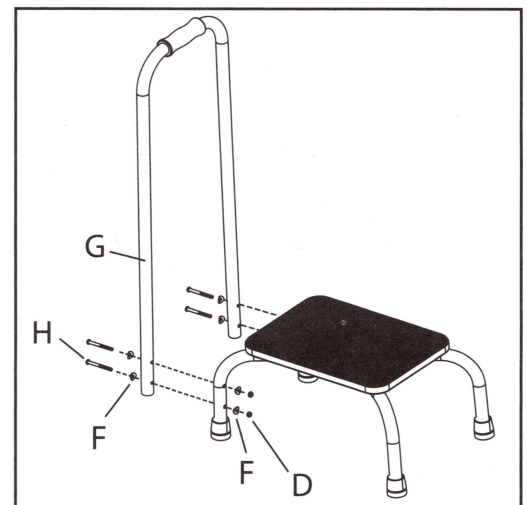

Fig. 3
3. Attach the Handrail (G) to the assembled foot stool by aligning the four holes in the handrail tubing with the four holes on the two legs of the assembled foot stool as shown in Fig. 3. Insert a 2-11/32" Handrail Screw (H) through a Washer (F) and through the leg section. On the back side, add another Washer (F) and secure with a Nylon Insert Lock Nut (D). Repeat this procedure for the remaining three holes. Using a phillips head screwdriver, tighten each screw by turning clockwise with the supplied wrench secured on the lock nut.